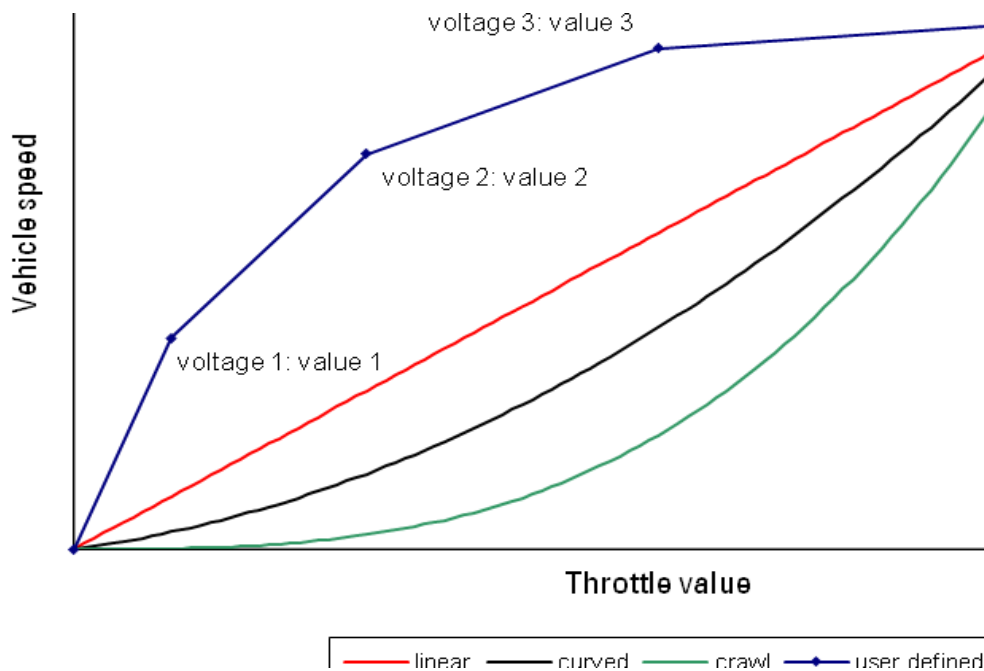

Figure 29 Input characteristics
- Define the input characteristic: this is a profile to the throttle value and can be linear, curved, crawl or user-defined as shown in Figure 29. The curved and crawl characteristics give greater throttle control at low speeds.